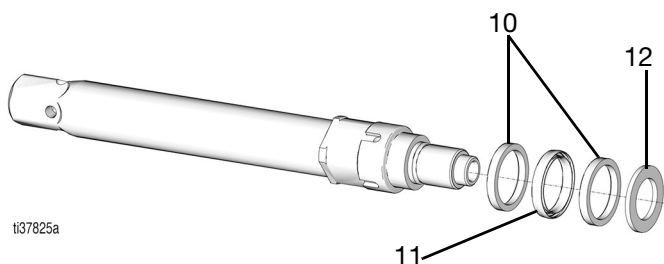

FIG. 25
- Remove the piston seal retainer (12), the piston seal (11), and the piston seal back-up rings (10), and replace with new parts from the seal repair kit (FIG. 25).